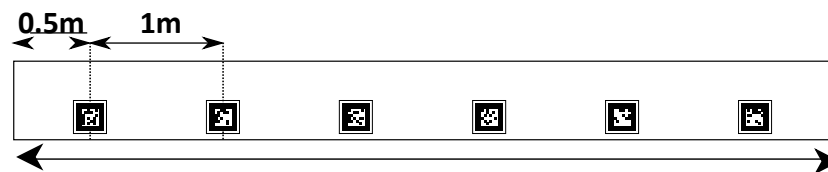
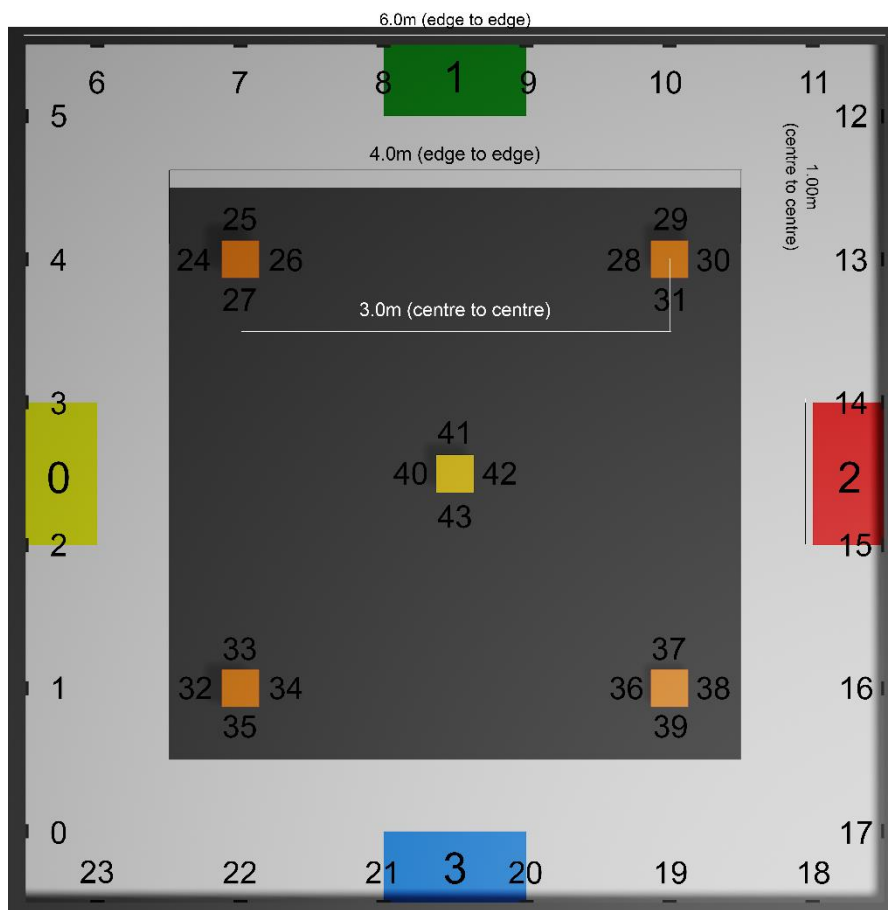

Figure 3: Six 250mm wide markers are spaced evenly along each 6m arena wall. The markers are placed 50mm above the floor.
Figure 4 – Diagram to show the marker numbers around the arena
- 3.2 The arena floor, overall, is a 6m x 6m square, as shown in Figure 4. The tolerance of these two dimensions is $\pm 0.25\text{m}$.
- 3.5 The arena features four zones. These areas are delineated by different coloured carpet. These extend from the barrier walls and are 2m x 0.5m and are centred. The dimensions and numbering of these zones is shown in Figure 4.
- 3.6 Each wall of the arena features six 250mm libkoki markers. Figure 3 shows the positioning of these markers, whilst Figure 4 shows the numbering of these markers.